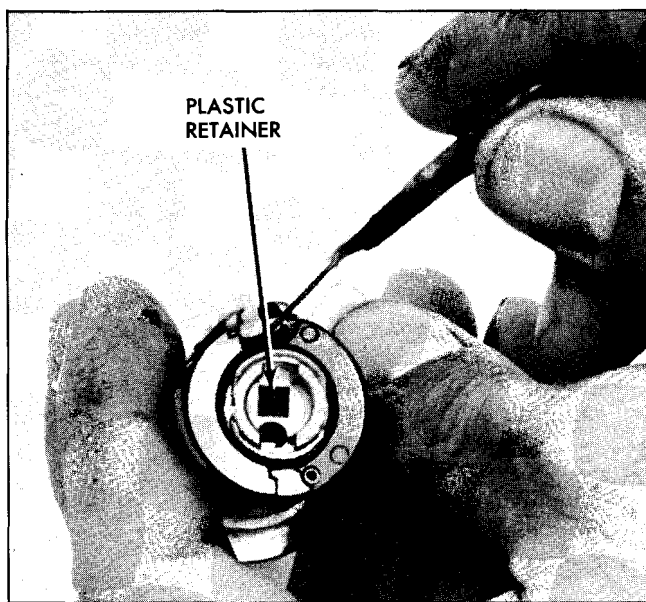

Fig. 0-13 Removing Lock From Cylinder
- F. Pull key out of lock assembly approximately two (2) teeth and, using suitable pick, slide or shake plastic retainer in end of lock toward pin side of cylinder as shown in Fig. 0-13.